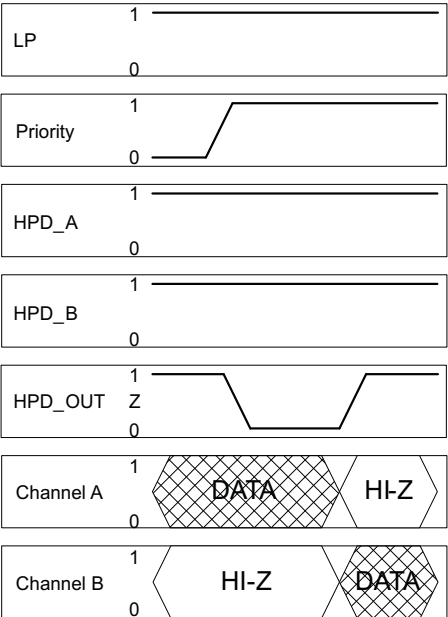

Figure 27.
- Case two: In this case both HPD inputs are HIGH. Changing the state of the priority pin when both HPD inputs are high forces the device to switch which channel is selected. When a state change is detected on the priority pin, the device waits for a short period of time $t_{T1(HPD)}$ before responding (see Figure 27). The purpose for this pause is to allow for the priority signal to settle and also to allow the device to ignore potential glitches on the priority pin. Once $t_{T1(HPD)}$ has expired, the HPD output is forced LOW for $t_{T2(HPD)}$ and the device follows the chain of events outlined in scenario 3 case 2.